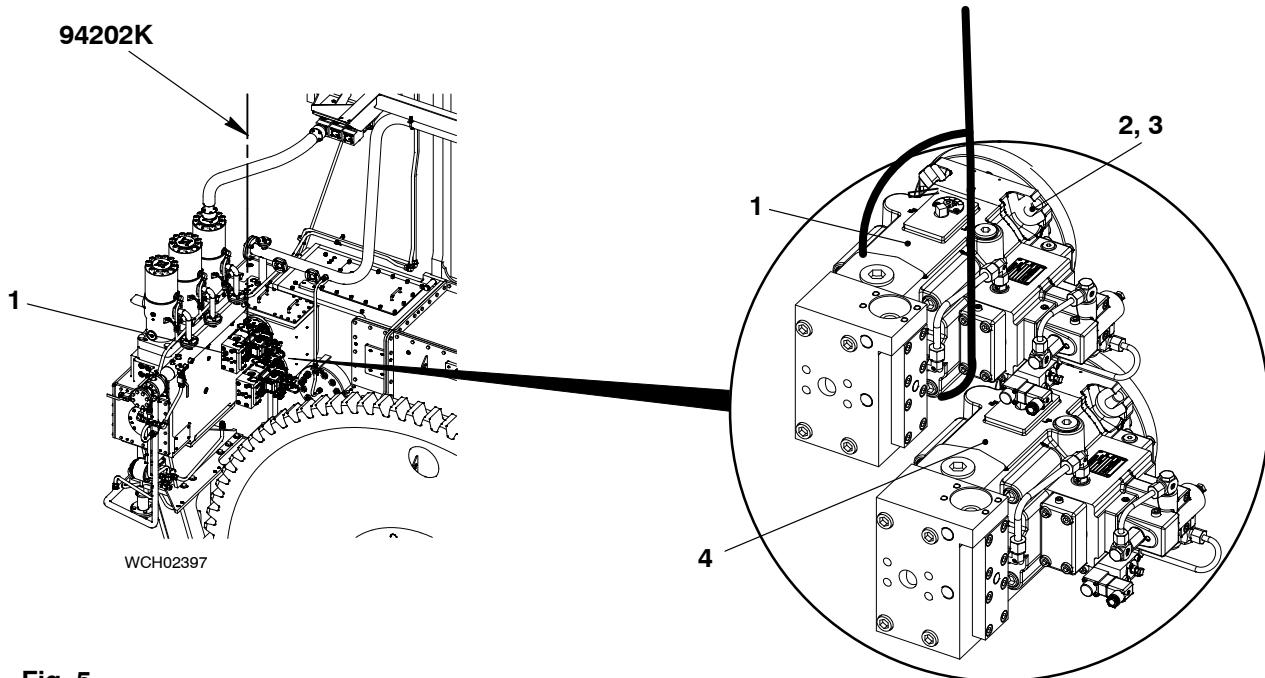

Fig. 5
- 1) Put the sling (94202K, Fig. 5) around the servo oil pump (1) two times.